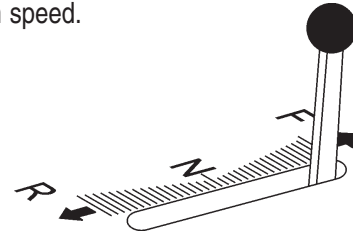

Figure 40. Transmission Engage/Disengage Lever (Forward Position)
3. Move the **travel lever** towards the **FORWARD** position to increase forward travel speed during cutting (Figure 40). Placing the travel lever fully forward will move the saw at maximum speed.